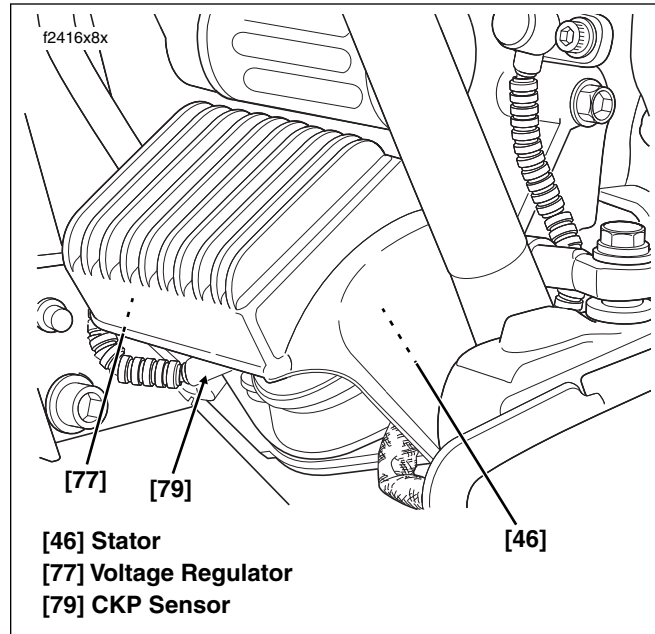

Figure 9-5. Voltage Regulator (Left Side View)
2. Locate CKP sensor connector [79], 2-place Deutsch, fixed to bracket at bottom of voltage regulator. See Figure 9-5.
4. Mate pin and socket halves of CKP sensor connector [79]. See Figure 9-5.